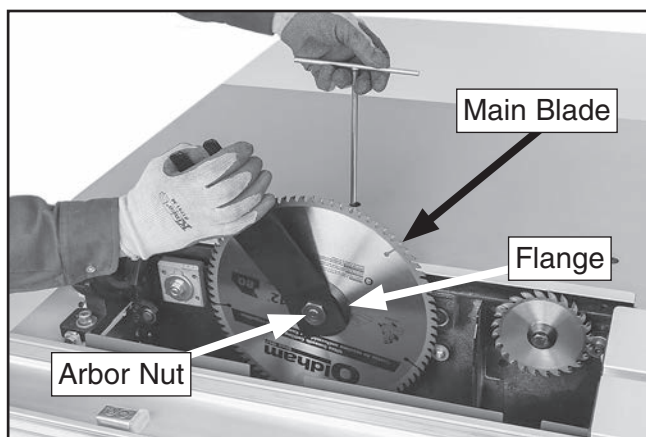

Figure 34. Main blade installed on arbor.
26. While still holding T-handle wrench, thread arbor nut on counterclockwise and fully tighten it to secure blade (see **Figure 34**).